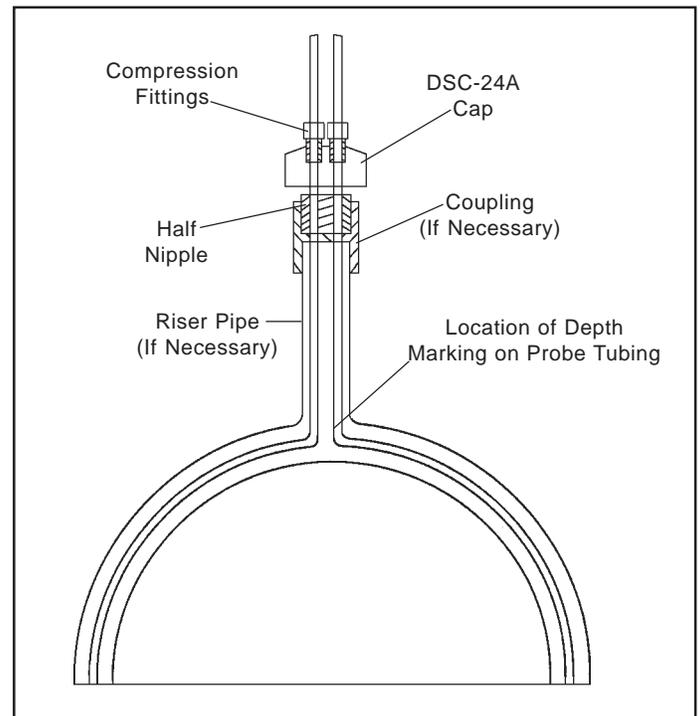

Figure 1-1
- 2. Feed Sensors Through DSC-24A Cap:** Loosen the compression nuts on the compression fittings of the DSC-24A cap. Feed the wire ends of the DFP-25 and the DWP-25 probe sensors through the underside of the DSC-24A cap. Continue to feed the probe sensors through the compression fittings until the desired installation depth markings are level with the tank fitting (probes are marked for proper installation depths for 4, 6, 8, and 10 foot tank diameters). Additional length may be required for riser pipe length. Tighten the compression nuts on the compression fittings of the DSC-24A cap (see figure 1-1).